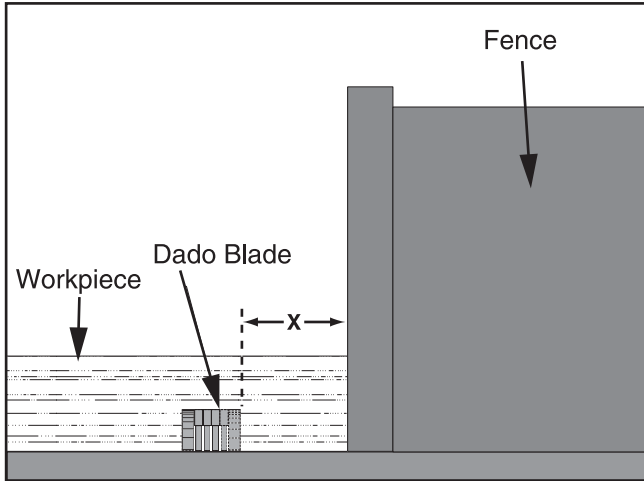

Figure 46. Stacked or wobble dado cut.
- Adjust the distance between the fence and the inside edge of the blade, as shown in **Figure 46**, to dado the length of a workpiece.